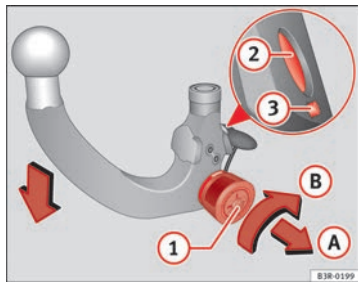

Fig. 170 Removable towing bracket: Setting the spring mechanism to the "ready" position
- Insert the key **(1)** ⇒ Fig. 170 in the lock on the knob and turn it towards the red marking.